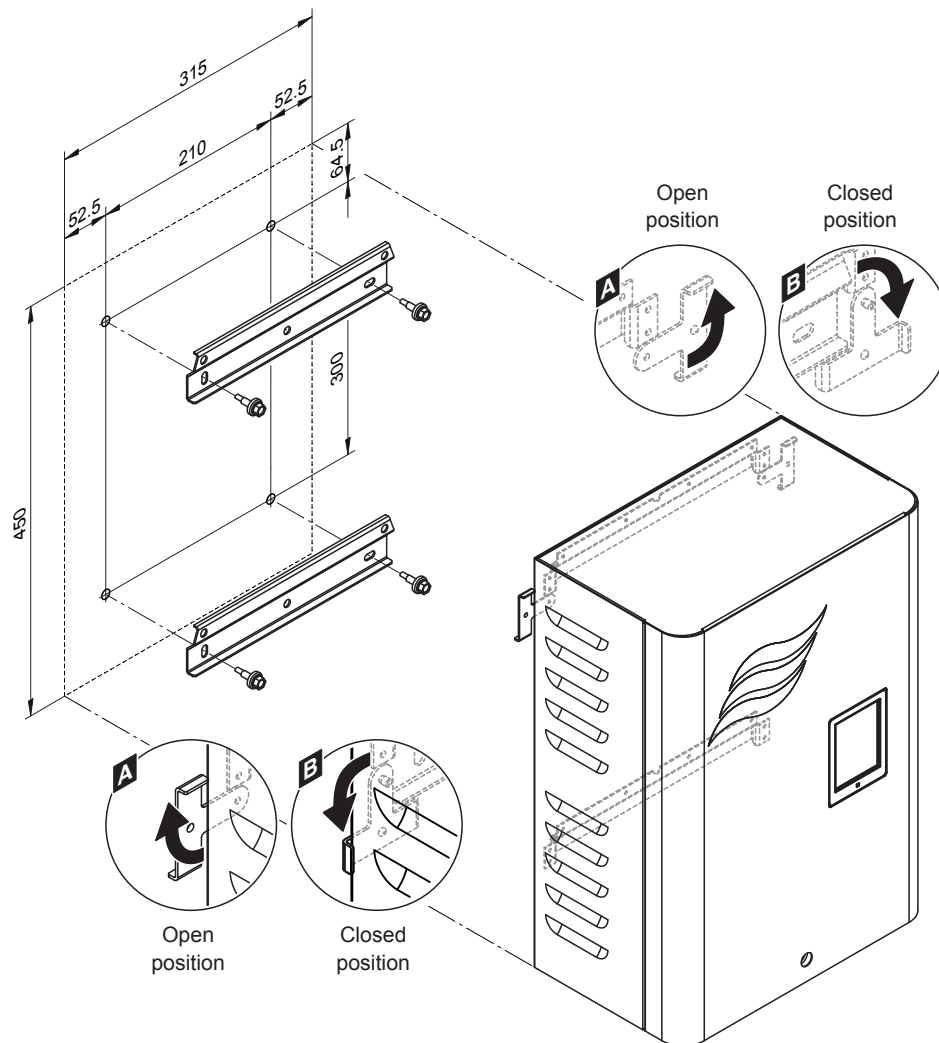

Fig. 38: Mounting the control unit of Condair ME Control (dimensions in mm)
3. Move the locking hooks on the back of the control panel to open position (see detail "A" in Fig. 38).
5. Move the locking hooks on the back of the control panel to closed position (see detail "B" in Fig. 38) in order to fix the control unit to the upper wall support.